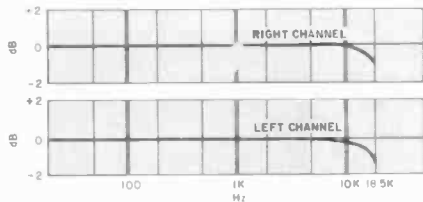

Fig. 1. "Ruler flat" response claimed by some specifications is not always true, as shown here
**Published Specs vs. Reality.** Reading some of the published specifications for CD players, you might correctly conclude that utopia for audio enthusiasts had truly arrived. "Ruler flat" response from 20 to 20,000 Hz is claimed. The slight attenuation at 18.5 kHz shown in Fig. 1 (-0.8 dB for the left channel and -1.1 dB for the right channel) suggests that the "ruler" is slightly "bent" at one end. However, this response curve is far, far better than anything ever produced from a conventional LP test record tracked by even the finest stylus/cartridge combination.